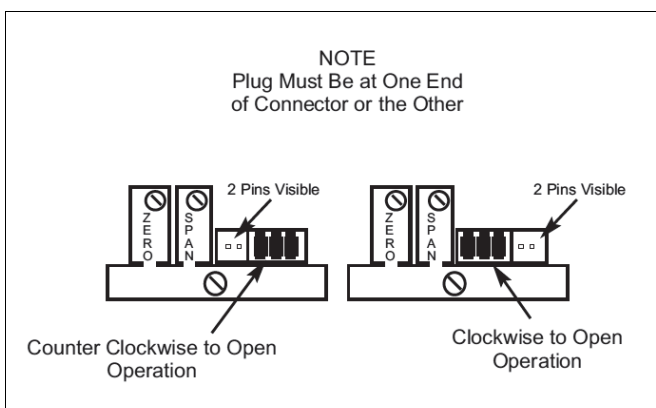

Fig. 39 Plug setting for transmitter operation.
- ❑ The potentiometer cable can now be connected back to the transmitter board terminal pins. The positioning of the terminal plug is done according to valve operation orientation (see Fig. 39). The plug must always be aligned to one end or the other of the five pin terminal on the transmitter board.